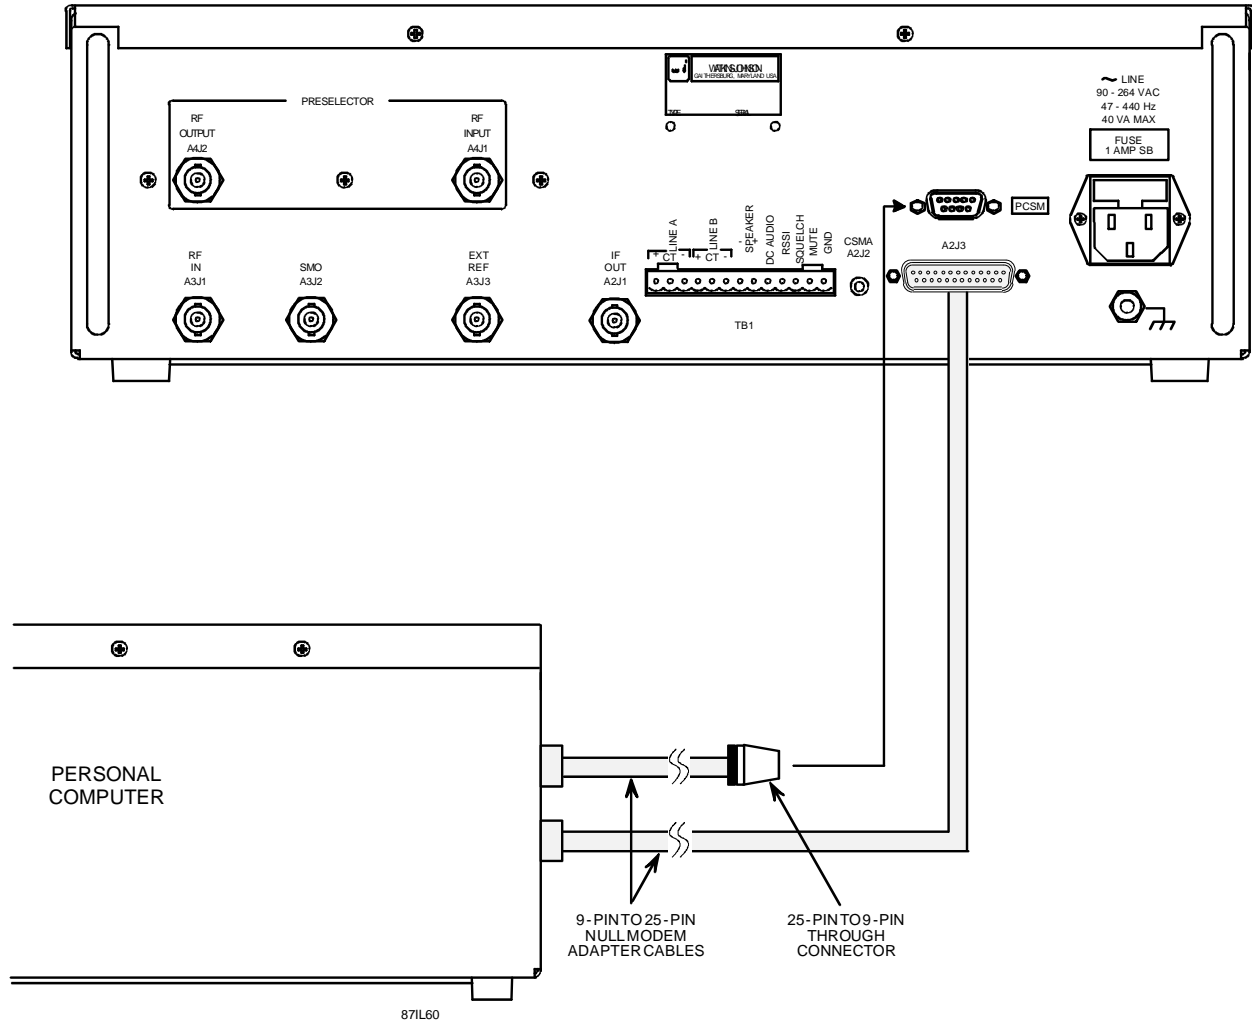

Figure G-4. Connecting the Computer to the Receiver
7. Connect LINE 1 of the I/O Communications board (DB-9 port) to connector A2J3 on the rear of the receiver (DB-25 port) using the 9-pin to 25-pin null modem adapter cable and a 25-pin to 9-pin through connector (see **Figure G-4**).
8. Connect LINE 2 of the I/O Communications board (DB-9 port) to the PCSM2 connectors on the rear panel of the receiver (DB-9 port) using the 9-pin to 25-pin null modem adapter cable and a 25-pin to 9-pin through connector (see **Figure G-4**).
6. On the rear panel of the receiver, locate the existing 9-pin D-type "knock-out" that is directly above connector A2J3 (refer to **Figure G-4**). Carefully remove and discard the "knock-out", taking care not to damage any receiver connectors or assemblies.
- Mount connector W1J1 to the rear panel of the receiver using the provided hardware: Part Number 205817-1, Screw/Lock Kit. Affix the supplied label, "PCSM2", next to this connector as shown in **Figure G-4**.